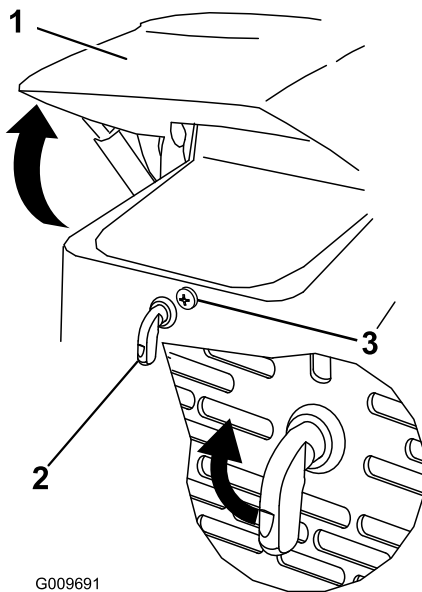

Figure 26
1. Loosen the hood locking screw (Figure 26)
2. Turn the hood latch clockwise (Figure 26).
3. Swing the hood up (Figure 26).
3. Tighten the hood locking screw to secure the latch (Figure 26).